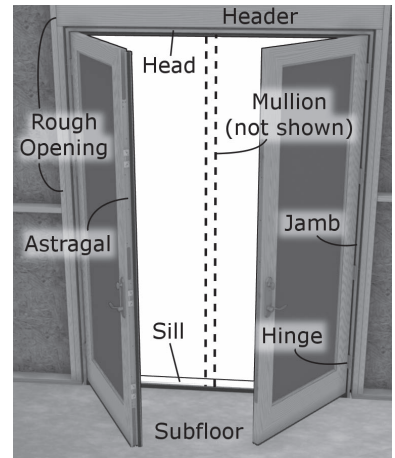

Figure 2
**Before you begin, it is recommended that you familiarize yourself with the packaged hardware contents (below left) and the different components that make up the door assembly (see figure 2).**